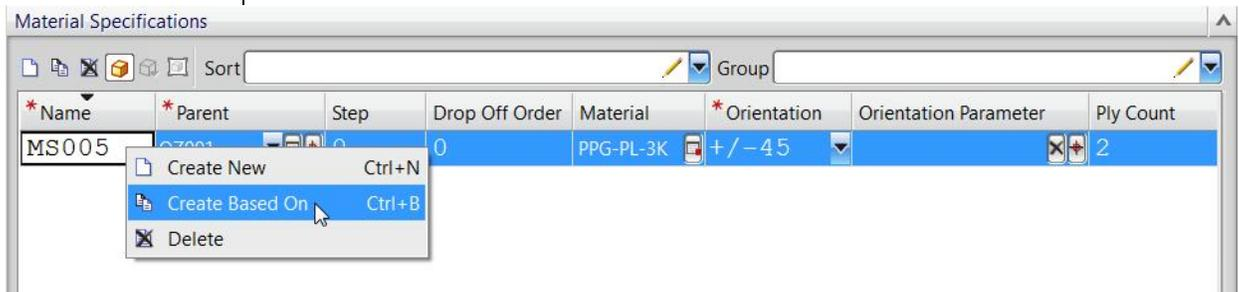

Figure 9–7
6. Right-click on **MS005** and select **Create Based On** as shown in Figure 9–7.